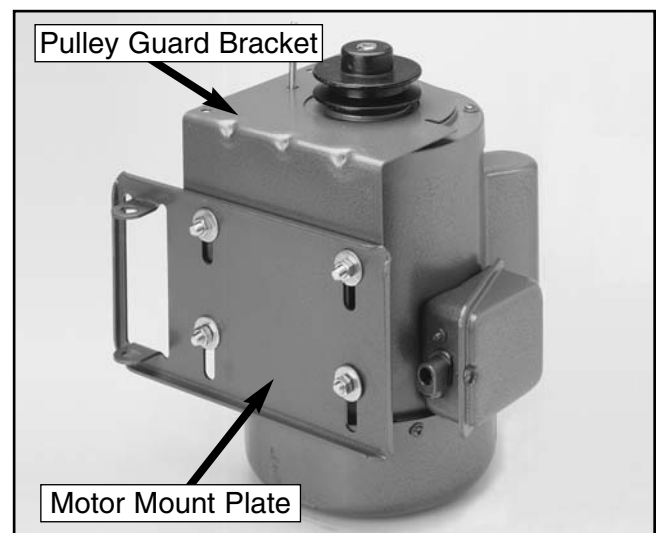

Figure 17. Installing pulley guard.
3. Set the motor on end and slip the pulley guard bracket between the base of the motor and the motor plate as shown in **Figure 17**.